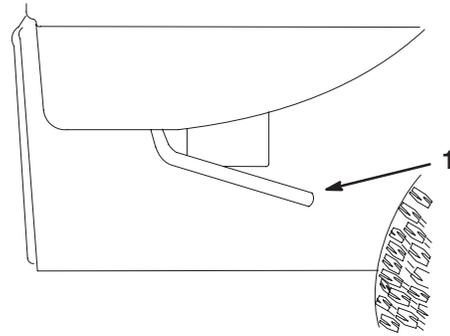

Figure 22
1. Lift the lever on either side of the box and lift the box up (Fig. 22).